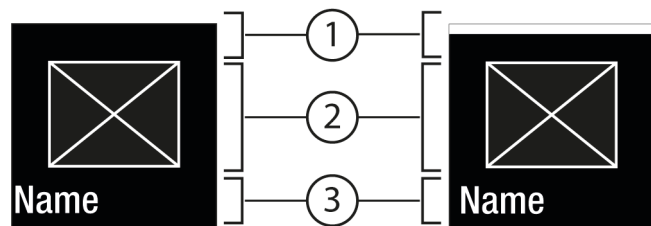
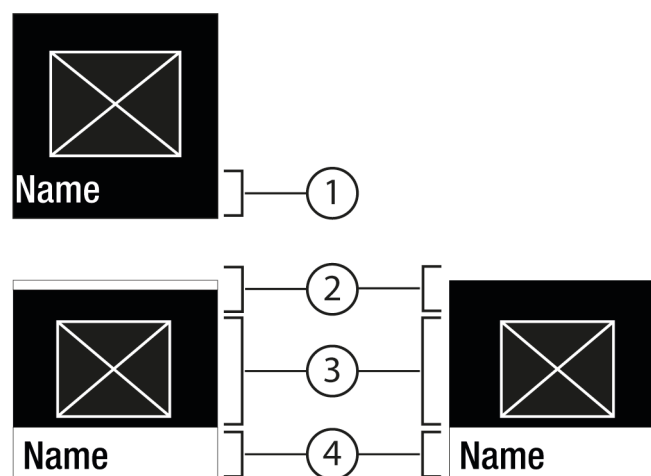

Fig. 6
Fig. 7
- Press Confirm *Fig. 5 (2)* to open the submenu *Fig. 7 (4)*.
- Set a new value: Press Confirm *Fig. 5 (2)* to select an active value *Fig. 6 (1)*.
- Back to the menu: Press Confirm *Fig. 5 (2)* to select the active value *Fig. 6 (2)*.
- ▷ Status: On *Fig. 6 (1)* appears briefly in the submenu *Fig. 7 (4)*.